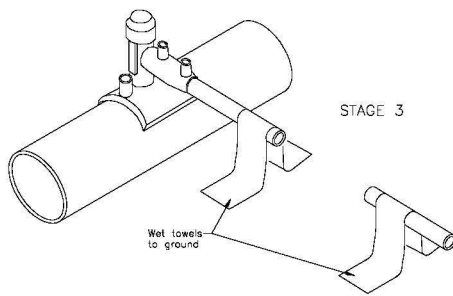

Figure A40 - PE service cut off
3. Drape damp cloths over the section to be cut out ensuring that the ends of the cloth are in contact with the ground. Refer to Figure A40.
4. Drape damp cloths over the section to be cut out ensuring that the ends of the cloth are in contact with the ground. Figure A40.